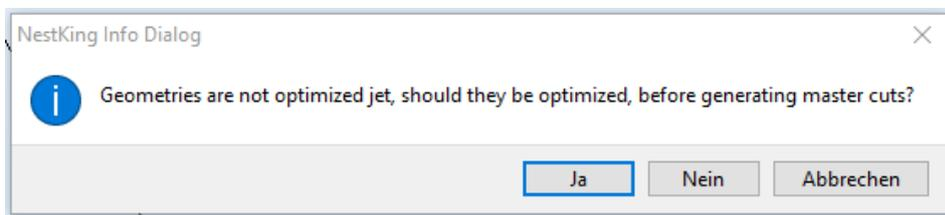

Figure 91
2. Next, NestKing asks if you want to optimize our geometries (same as hitting the  button) (Figure 91).